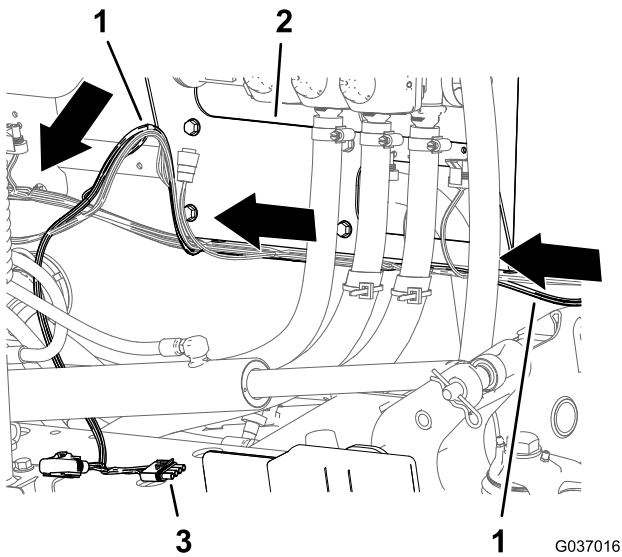

Figure 37
- 3. Route the wire harness across the boom-valve bracket (Figure 37).